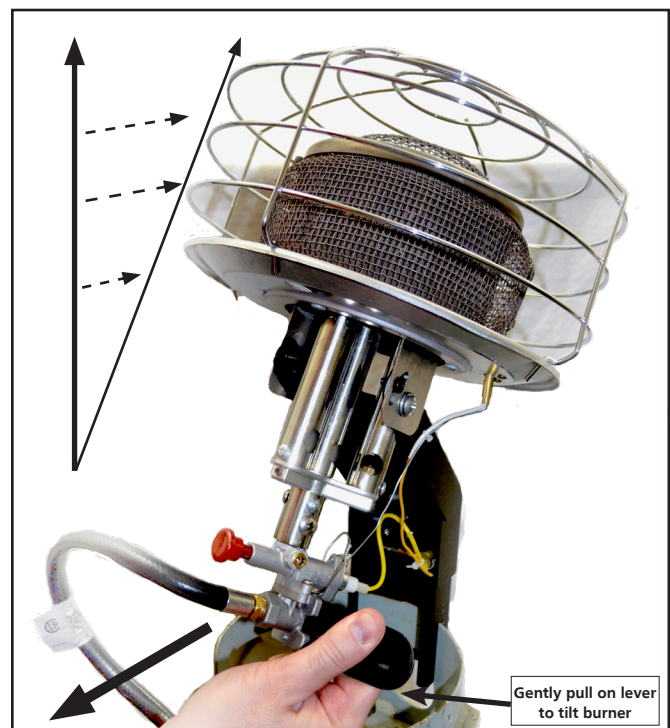

Figure 6
- H. Pull on lever to adjust heater to the desired tilted angle operating position. Figure 6